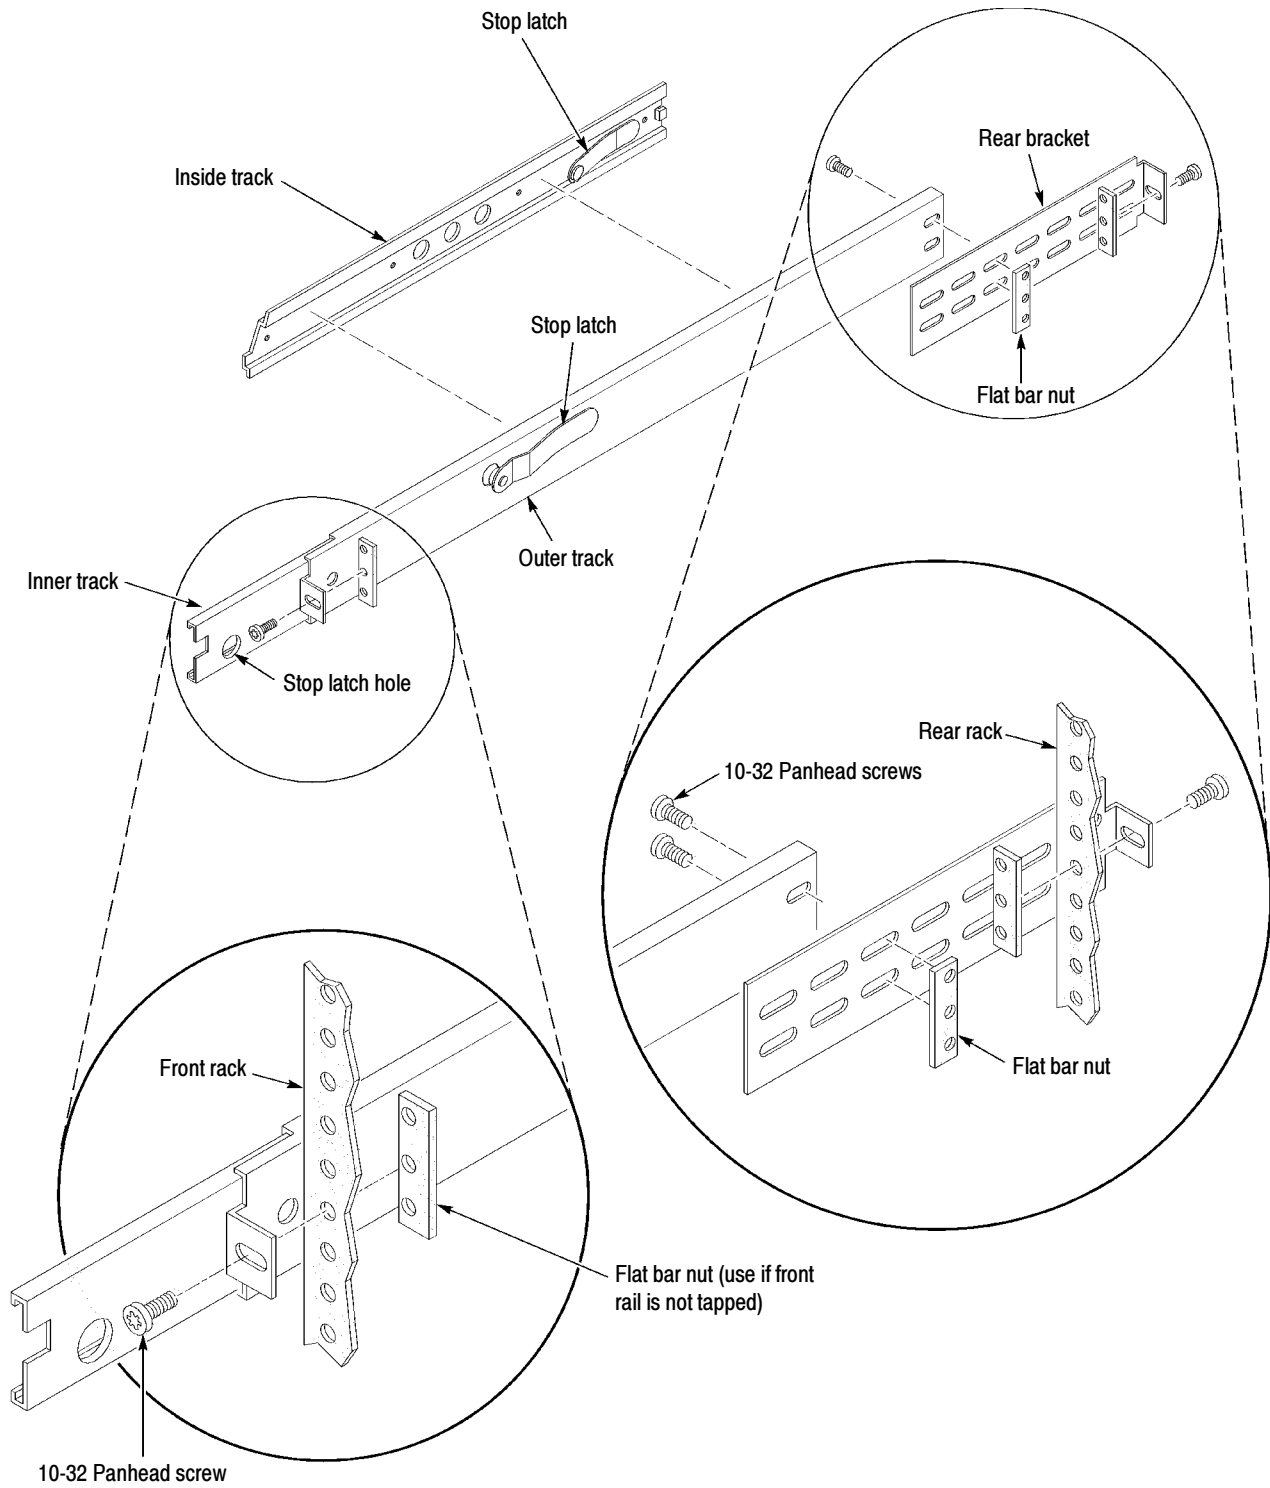

Figure 2: Assembly of slide-out track assemblies
3. Align the rear bracket to the right slide-out track as shown in Figure 2. Note that the rear bracket has multiple pairs of mount-through holes. When aligning the bracket and track, be sure to select a pair of holes that mount the rear bracket so that the flange-to-flange distance matches the front rail to rear rail spacing of the rackmount rack just measured in step 2.